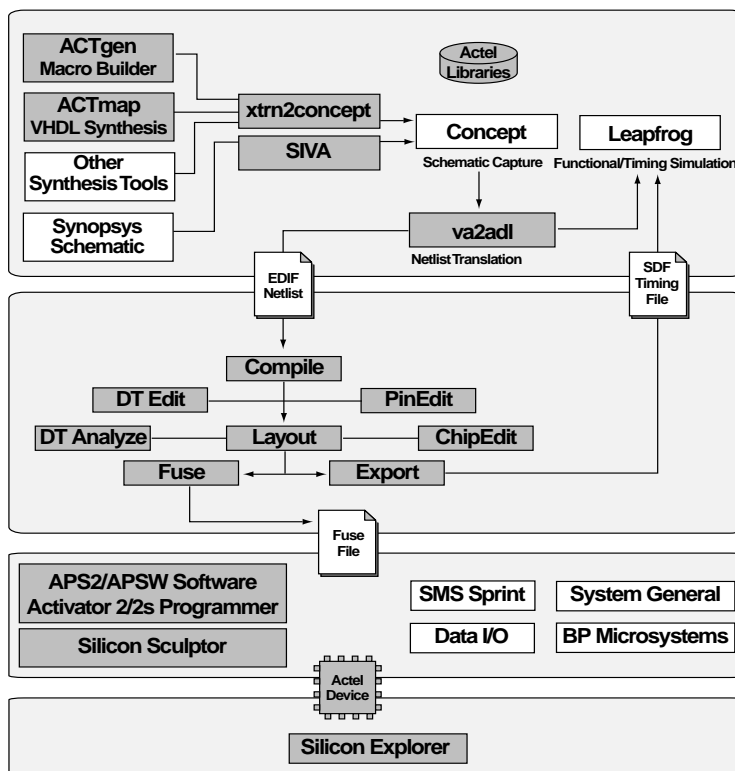

Figure 2-2. Concept/Leapfrog Design Flow
Figure 2-2 shows the schematic-based design flow for an Actel FPGA using Designer software and Concept schematic capture software.¹
1. Actel-specific utilities/tools are denoted by the grey boxes in Figure 2-2.